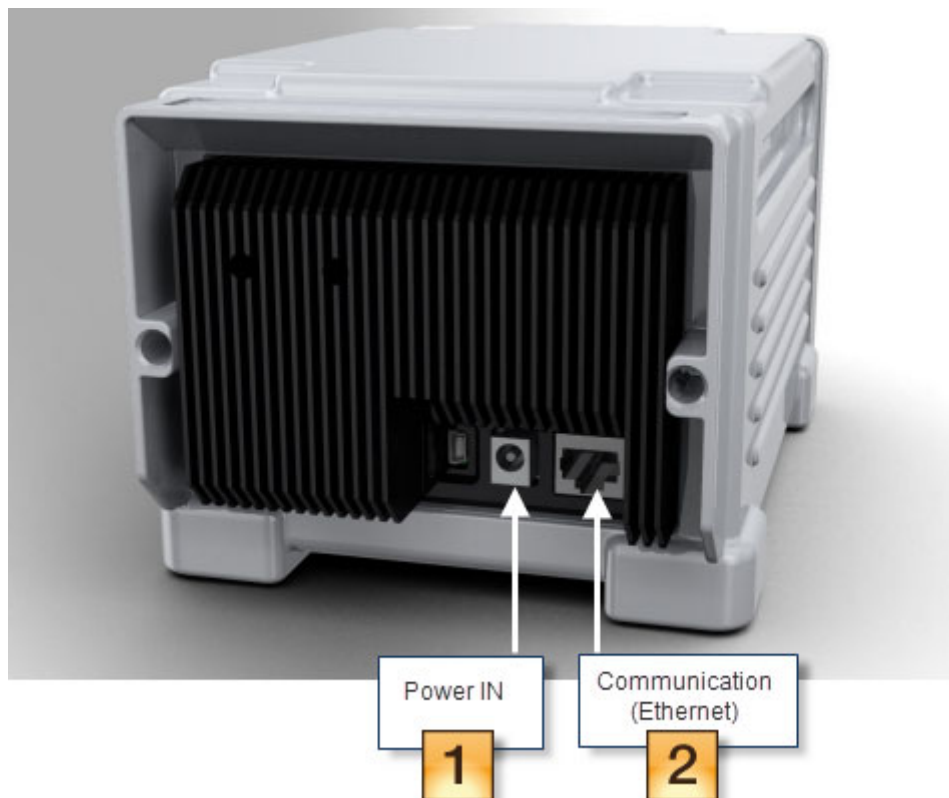

Figure 2-3 Connection points at back panel of FlowIR
2. Connect the power supply supplied to the unique connector on the back panel of the FlowIR (#1 IN Figure 2-3).
1. Connect the Ethernet communications cable to the right-most unique connector on the back panel of theFlowIR (#2 in Figure 2-3).